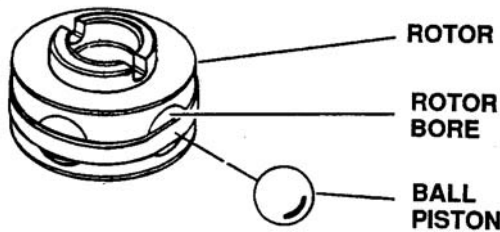

Figure 6-86. Inspecting Motor Rotor Assembly
5. Inspect the rotor assembly. Remove the piston balls from the rotor one at a time by working clockwise from the letter stamped in the face of the rotor. Place balls in a prepared container. See Figure 6-86.